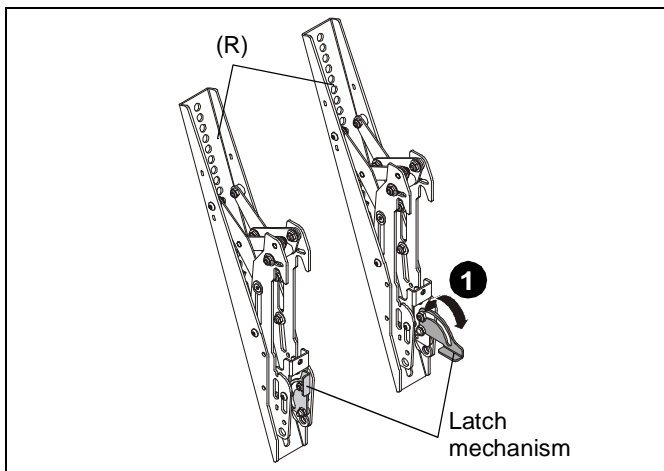

Figure 19
- Lower the latch mechanism on each interface bracket (R). (See Figure 19)
- Ensure that the latch mechanisms on interface brackets (R) are already lowered. (See Figure 19)